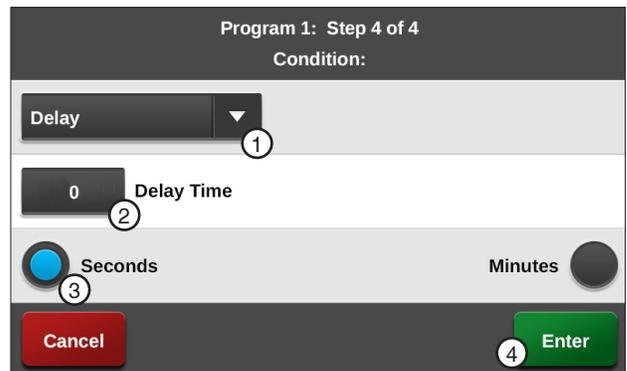

Figure 157-2 1. Delay Condition 2. Delay Time 3. Seconds 4. Enter
4. Program the Delay condition for this step. Refer to Figure 157-2.